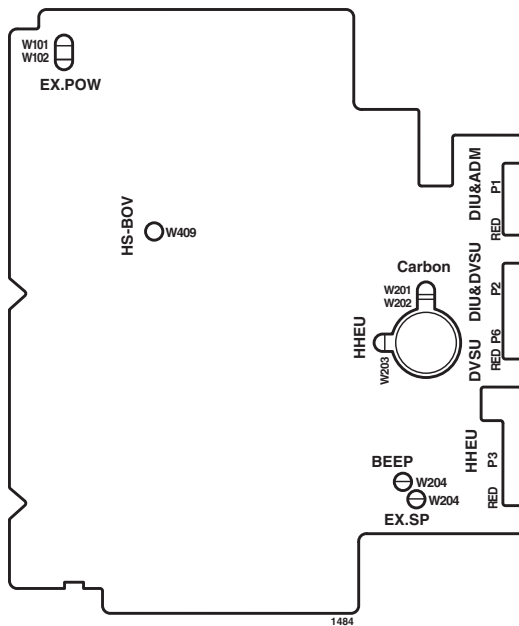

Figure 11-34 DKT2010-S Strap and Connector Locations
**Note** See Figures 11-34~11-35 for Steps 7~8.
2. Install a strap in the HS-BOV W409 location (see Figure 11-34).